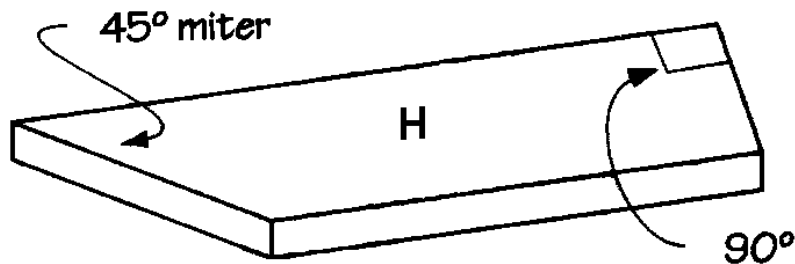
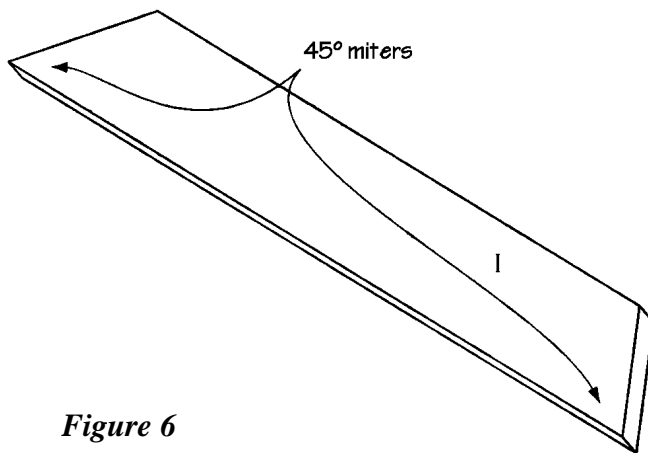

Figure 5
Figure 6
1. Cut 8 top/bottom door trims (H) from 1 x 4 pine, each measuring 15 inches long.
2. Miter each of the 8 top/bottom door trims (H) at opposing 45-degree angles, as shown in *Figure 5*.
3. Cut four wide side door trims (I) from 1 x 4 pine, each measuring 38 inches long.
4. Miter each of the 4 wide side door trims (I) at opposing 45-degree angles, as shown in *Figure 6*.
1. Cut four top/bottom door trims (W) from 1 x 4 pine, each measuring 11-1/2 inches long.
2. Miter each of the 4 top/bottom door trims (V) at opposing 45-degree angles, as shown in *Figure 5*.
3. Cut four side door trims (X) from 1 x 4 pine, each measuring 3-1/2 inches long.
4. Miter each of the 4 side door trims (X) at opposing 45-degree angles, as shown in *Figure 6*.
5. Cut 4 narrow side door trims (Y) from 1 x 2 pine each measuring 32-1/2 inches long.
6. Cut 4 door panels (Z) from 1/4-inch plywood, measuring 11-1/4 x 29 inches.
7. Place two top/bottom door trims (W), face down, 25-1/2 inches apart, and parallel to each